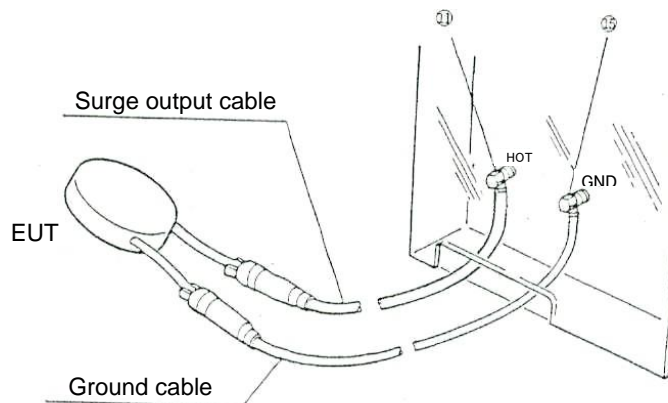

Fig. 12
3. Connect the sample to the simulator via the HOT terminal ⑪ and via the GND terminal ⑮ through the supplied Surge output cable and Ground cable, respectively, as shown in Fig. 12.